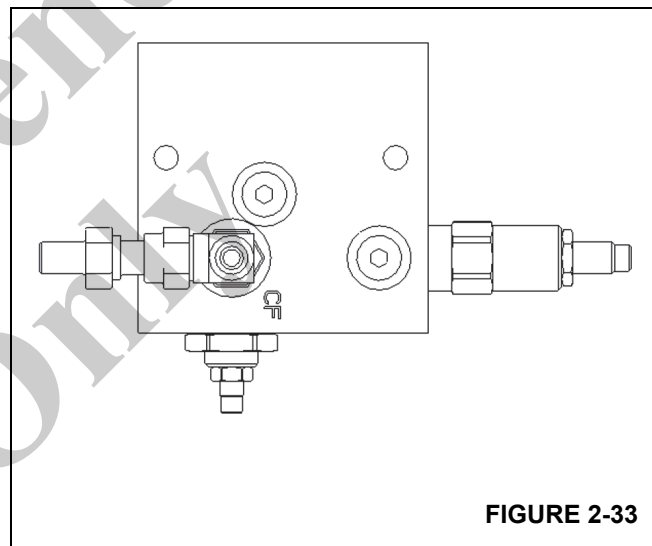

FIGURE 2-33
1. Attach pressure gauge at quick disconnect in CF port Figure 2-33. Make sure that machine is up to operating temperature then unplug oil cooler valve solenoid (located near oil cooler fan motor) to assure fan is running at full speed.